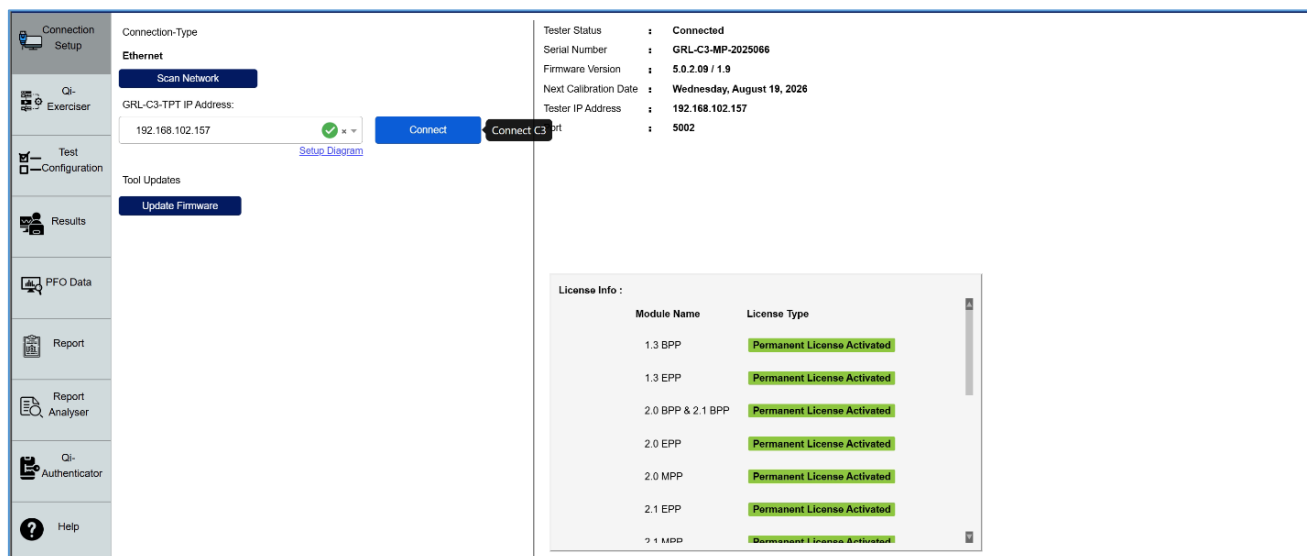

FIGURE 7.8: UPDATE GRL-C3-TPT FIRMWARE- #5
5. After the GRL-C3-TPT tester hardware has rebooted, connect the tester to the application by clicking on the **Connect** button (Figure 7.8 below).